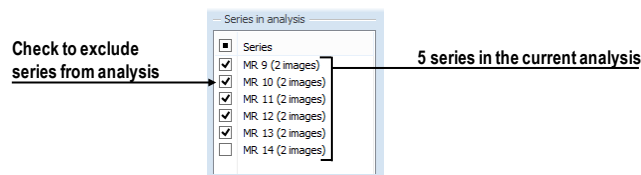

Figure 362 – Series in analysis section in the tool tab
1. In the **Quantitative analyses** tool tab, in **Series in analysis** list (see Figure 362), find the series which needs to be included or excluded.